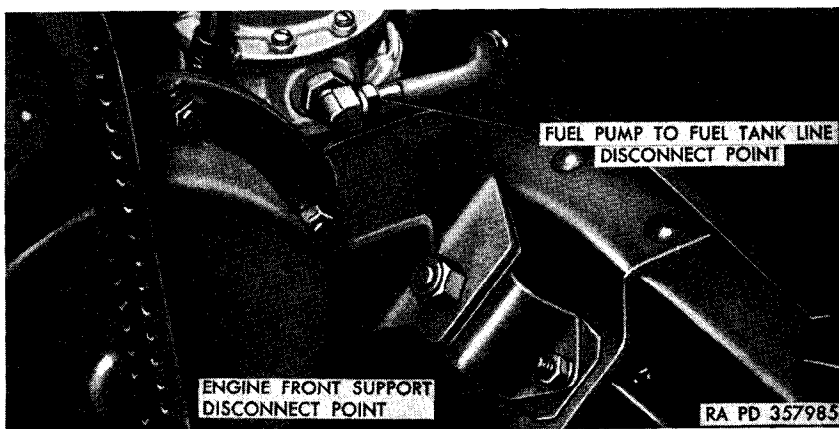

Figure 24. Disconnect points.
q. DISCONNECT ENGINE FRONT SUPPORTS (fig. 24). Remove the two nuts and bolts from each engine front support, allowing the mounting brackets to remain attached to the engine. When this operation is performed the engine ground strap at the engine right-front support will be disconnected.